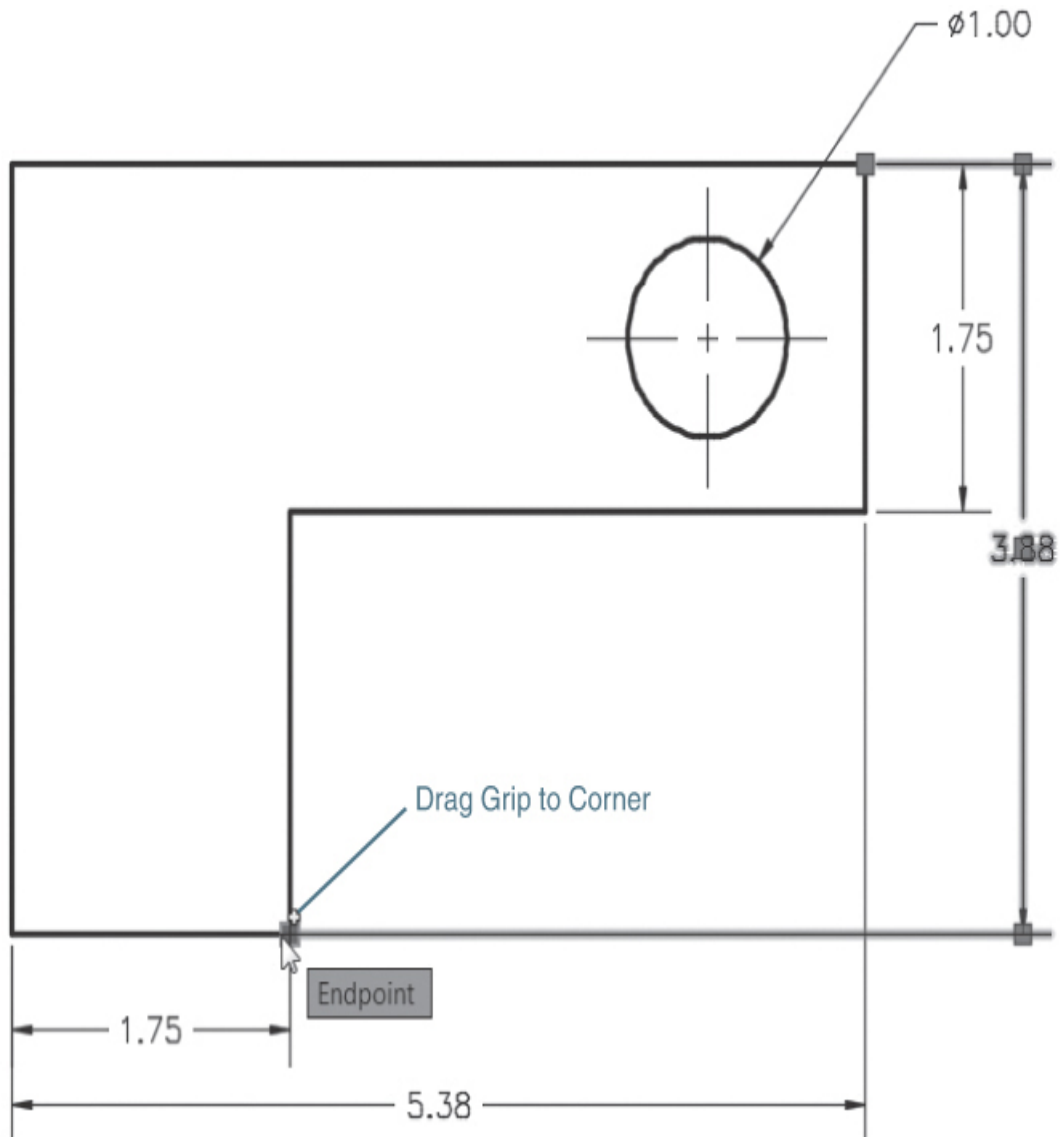

Figure 2-49
- 15** Your drawing should now look like Figure 2-49. Use grips to select the dimension extension line origin as